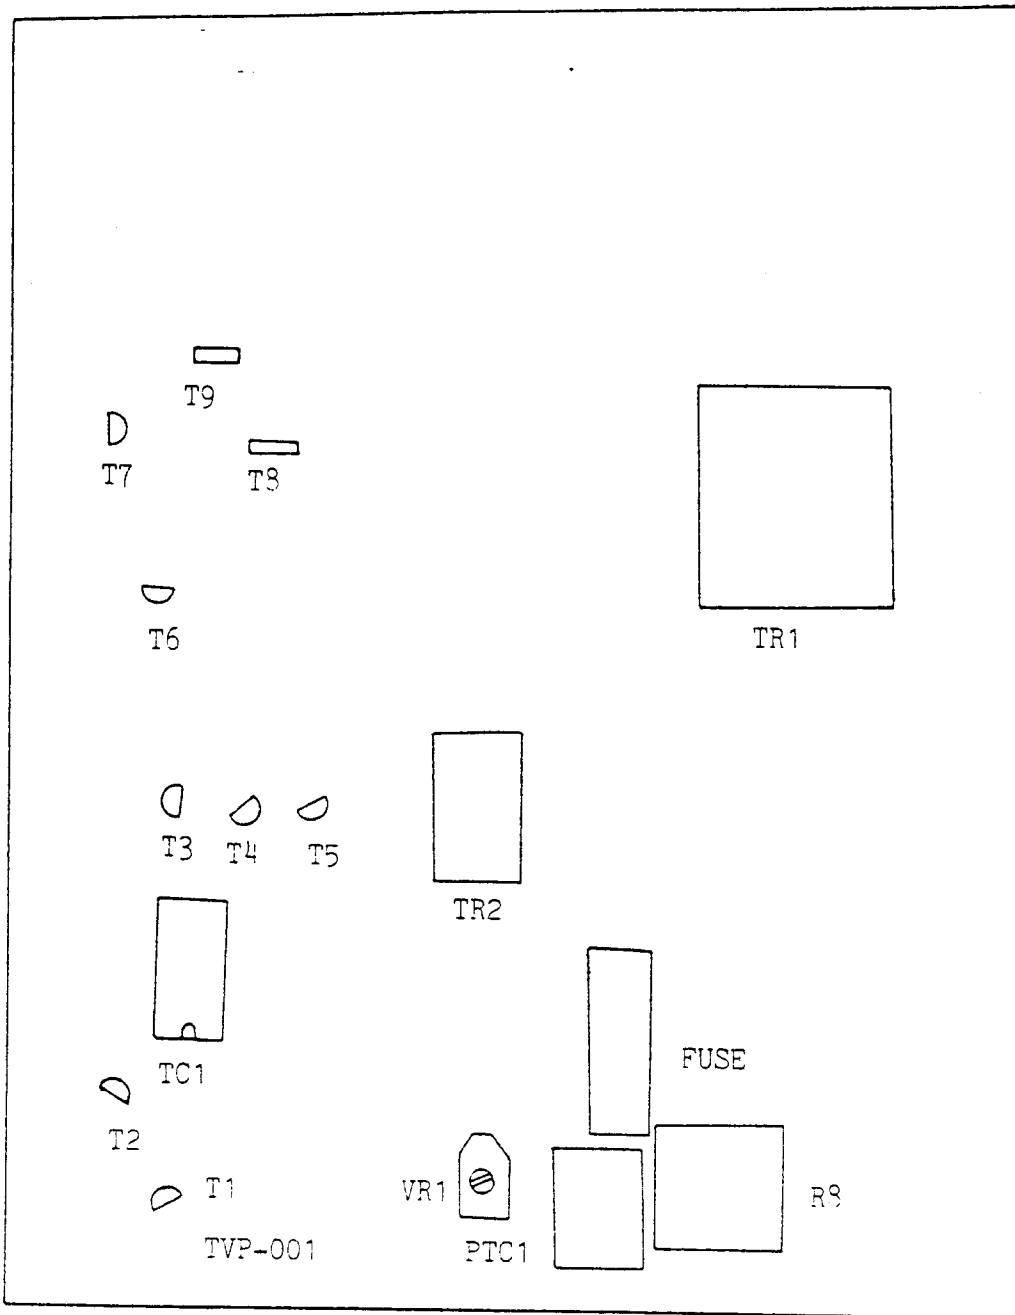

Fig 4-7
3. PCB-POWER adjustment and test location. (See Fig 4-7)